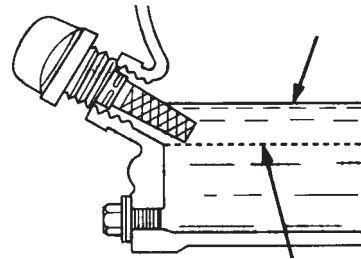

Figure 16. Engine Oil Dipstick (Oil Level)
4. If the oil level is low (Figure 16), fill to the edge of the oil filler hole with the recommended oil type (Table 4). Maximum oil capacity is 400 cc.